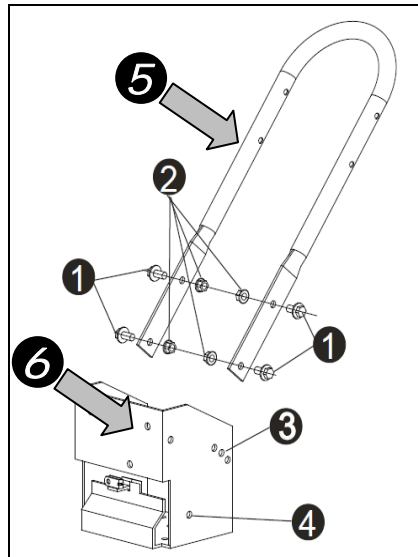

Fig.13
2. Place Ex-arm-rest ⑤(Fig.13) to two sides of the belt housing frame ⑥(Fig.13),the Insert four fastness bolts ①. ②.③(Fig.13)for each side in each hole.